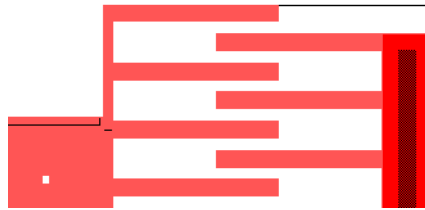

Figure 14: Aligning the comb-drive to the plate
- ☑ Re-align the **comb-drive** so that it looks like the layout in Figure 14.